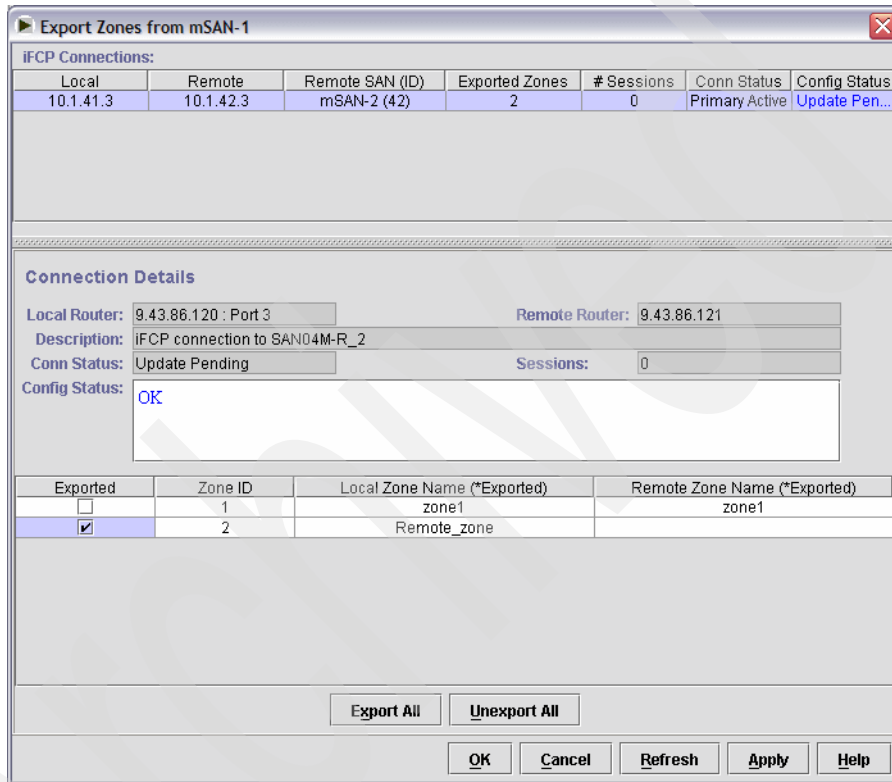

Figure 17-81 Exporting Remote\_zone from mSAN-1
- d. Export the new zone to the other router, as shown in Figure 17-81: